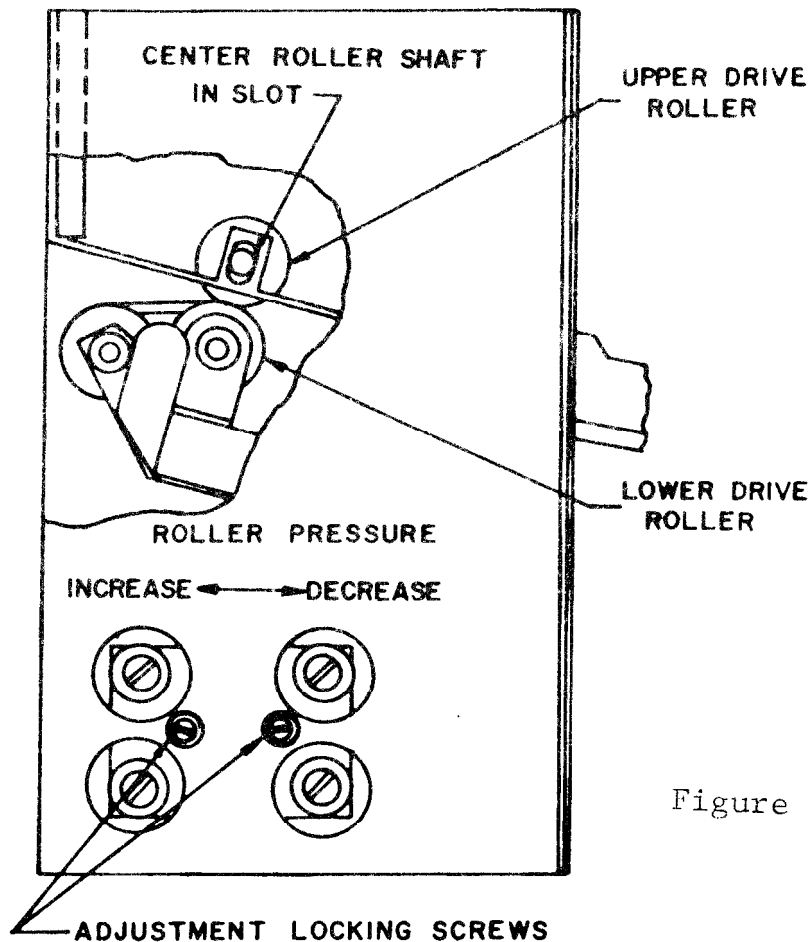

Figure 5
- a. Loosen the adjustment locking screws (Figure 5).